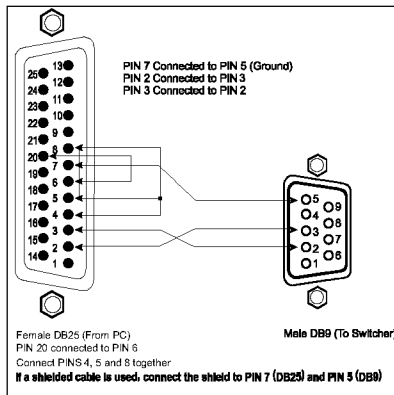

Figure 13: Connecting a PC (with a 25-pin connector) without a Null-modem Adapter
1. Connect the PC's DB25 COM port to the RS-232 IN DB9 port on the **VS-1616A** unit, as Figure 13 illustrates: